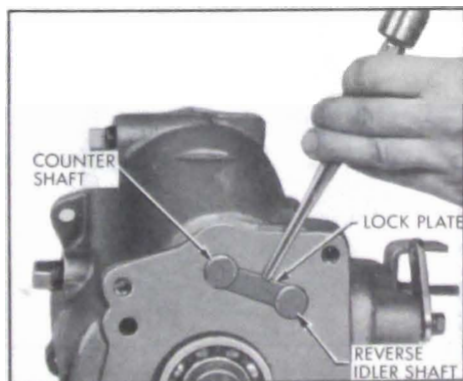

Figure 4-19—Removing Lock Plate
5. Drive countershaft and reverse idler shaft lock plate from position. See Figure 4-19.